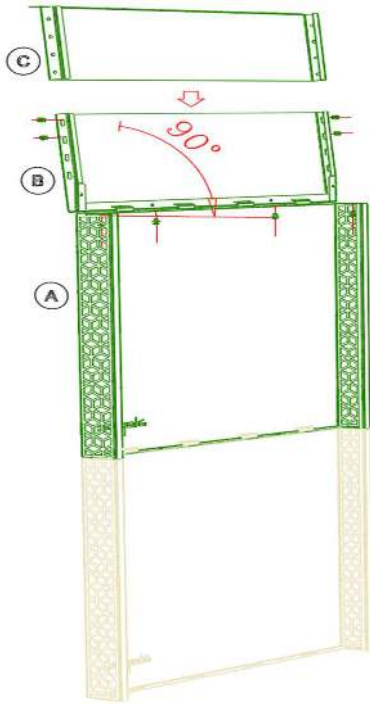

Fig. 3 - Lid (B) alignment to Front Panel (A)
- Place Lid (B) & rotate Lid (B) downward 90° as shown in Fig. 3 and secure fixings.
- Insert Extendable Lid (C) into Lid (B) as shown in Fig. 3 and secure fixings.